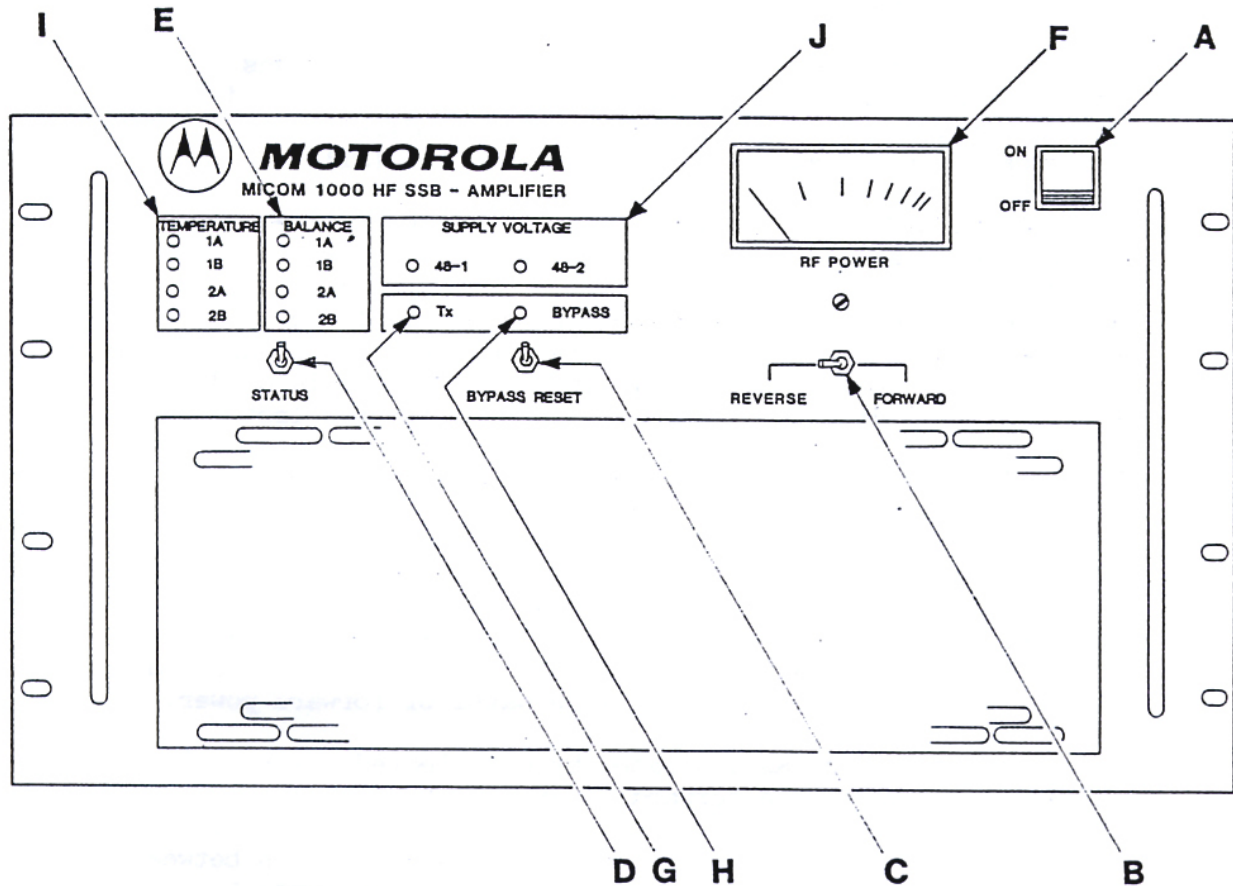

Figure 1. Front Panel Amplifier Unit
This section describes the controls, indicators and external connections available to the operator. The letter associated with each paragraph keys it to the corresponding item in Figure 1, 2, 3 or 4.
1.1 CONTROLS AND DISPLAYS (FIGURE 1 AND 3)